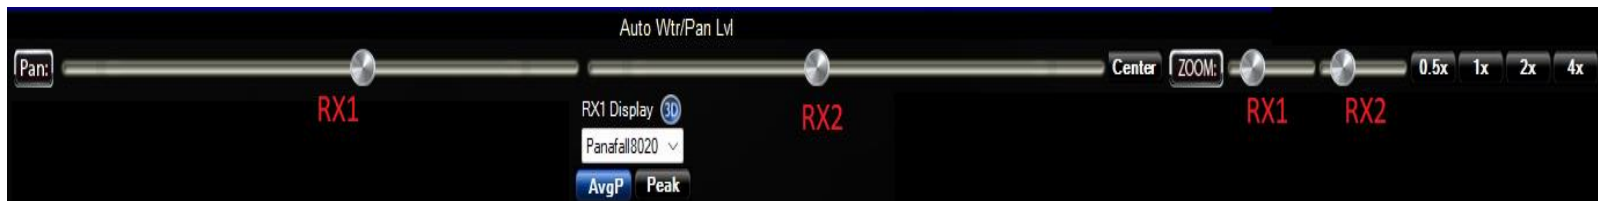

Figure 59: Display Controls
The main display controls, shown in Figure 59 below, consist of two sections: Screen adjustment controls and display selection controls. The former act on the screen as a whole, whereas the latter determine the display type to be used for RX1 (9) and RX2 (9b) respectively.